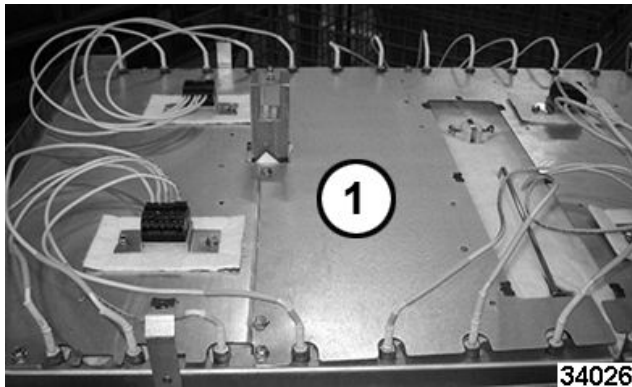

Fig. 47
3. Remove access panel (1, Fig. 47) for heating element to be serviced.